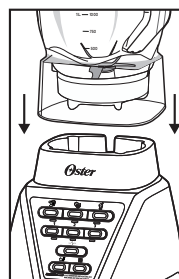

Fig. 18
5. Turn the jar up and place it onto the motor base (Fig. 18).